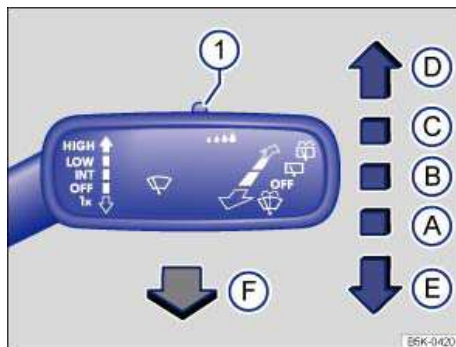

Fig. 79 Operating the front windshield wipers.
- Press the windshield wiper lever down briefly ⇒ fig. 79 (E) when the ignition is off.
Carefully fold the wiper arms back onto the windshield before driving! Switch the ignition on and press the windshield wiper lever down briefly ⇒ fig. 79 (E). The wiper arms move back to their original position.